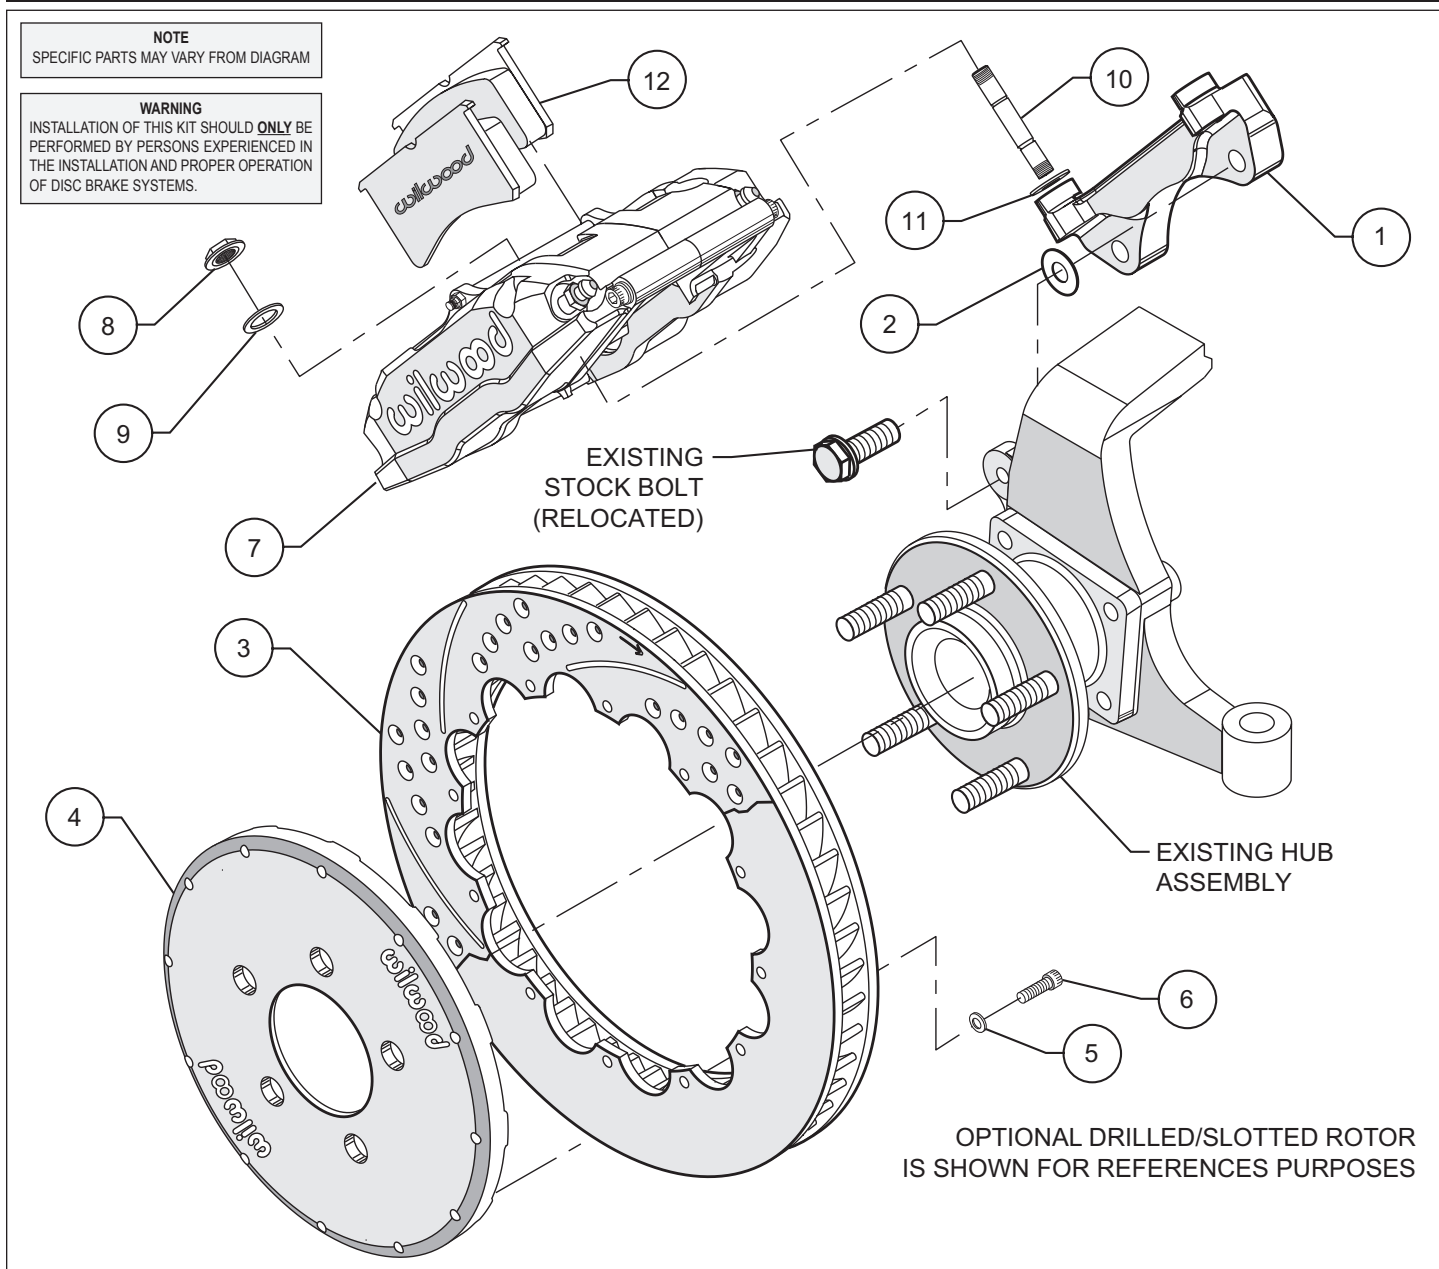
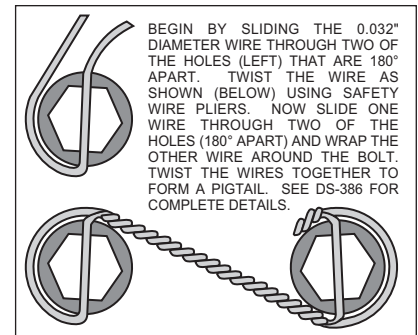

Figure 1. Typical Installation Configuration
Figure 3. Safety Wire Diagram
- The caliper mount bracket assembly (1) should be installed first with clean, dry threads on the mounting bolts. Install the bracket using the original caliper mount bolts. The bolts will now pass through the spindle from the opposite direction that they were removed (see figure 1). The bracket must tighten squarely against the inboard side of the caliper mount bosses on the spindle body. Inspect for interference from casting irregularities, machining ridges, burrs, etc. Use one thin shim (2) between the bracket and spindle during initial trial fitting. Later, after the caliper, pad, and rotor alignment has been checked, and any necessary shims have been put in place, the mount bolts should be coated with red *Loctite*[®] 271 and torqued to 65 ft-lbs.
- Assemble the rotor (3) to the hat (4) with the bolts (6) and washers (5) provided in the configuration pictured in figure 1. Be sure all bolts thread in smoothly and are snug. Then, torque all bolts in an alternating sequence to 85 **in-lbs**. Safety wire bolts (6) using standard 0.032 inch diameter stainless steel safety wire as shown in Figure 3. Please refer to Wilwood's data sheet DS-386 (available at www.wilwood.org/ds386.pdf) for complete safety wire installation instructions.